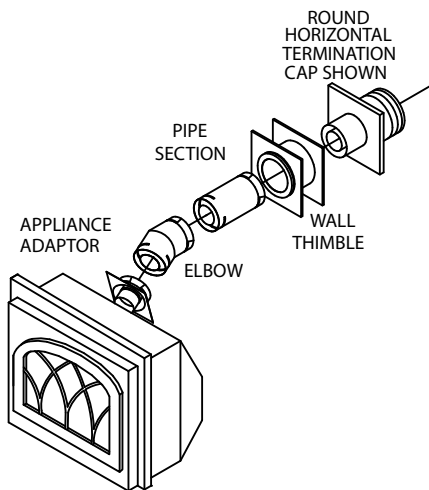

Figure 1
- Horizontal Termination (***Figs. 1 and 2***)